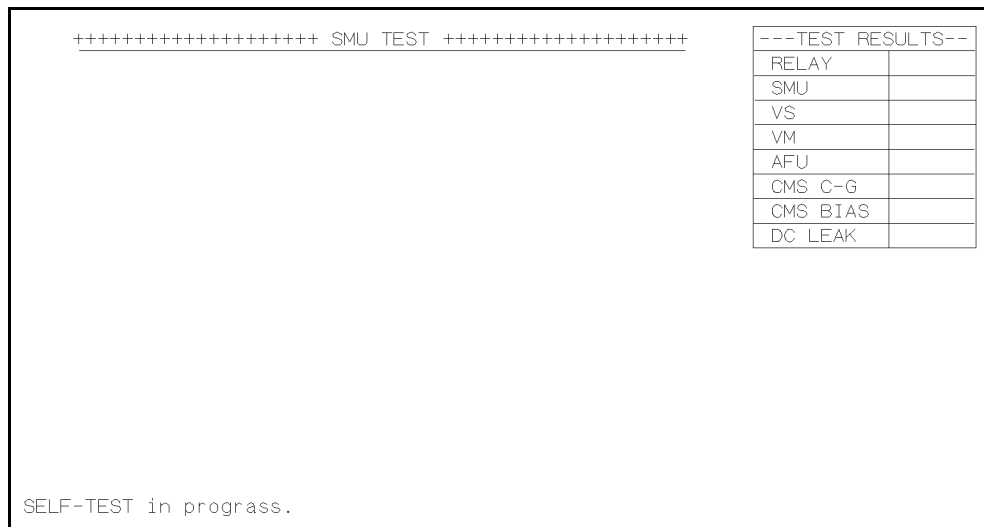

Figure 4-11. SMU Test Page
2. Select the **SMU** softkey: The SMU Test begins immediately, and the SMU TEST page shown in Figure 4-11 is displayed.